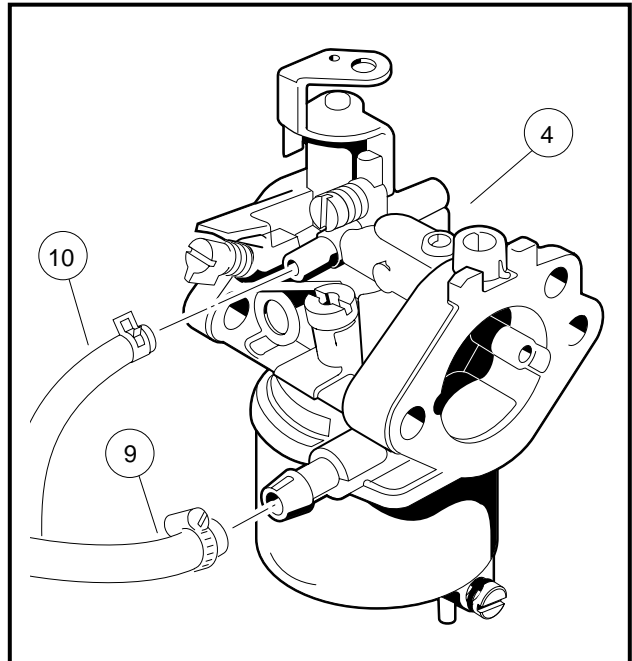

Figure 13-7 Carburetor, Fuel Line and Vent Line
4. Disconnect the fuel line (9) and vent tube (10) from the carburetor (4) **(Figure 13-7, Page 13-9)**.